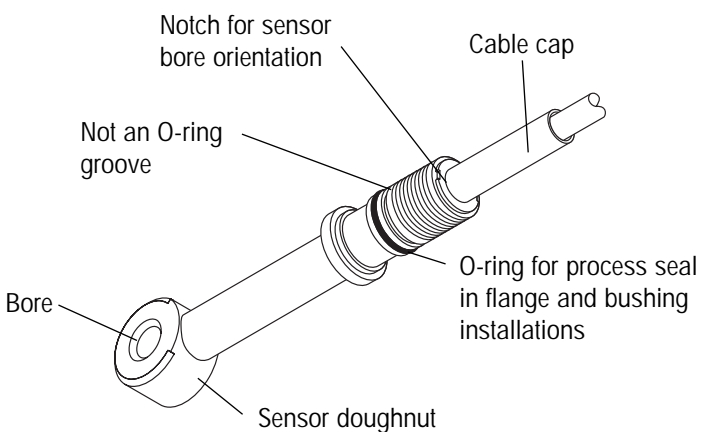

Figure 2: Sensor overview
- There are two grooves on the thread diameter of the sensor. The groove closest to the cable is **not** an O-ring groove and should remain unoccupied. The next groove, as shown in Figure 2, **is** for the O-ring.